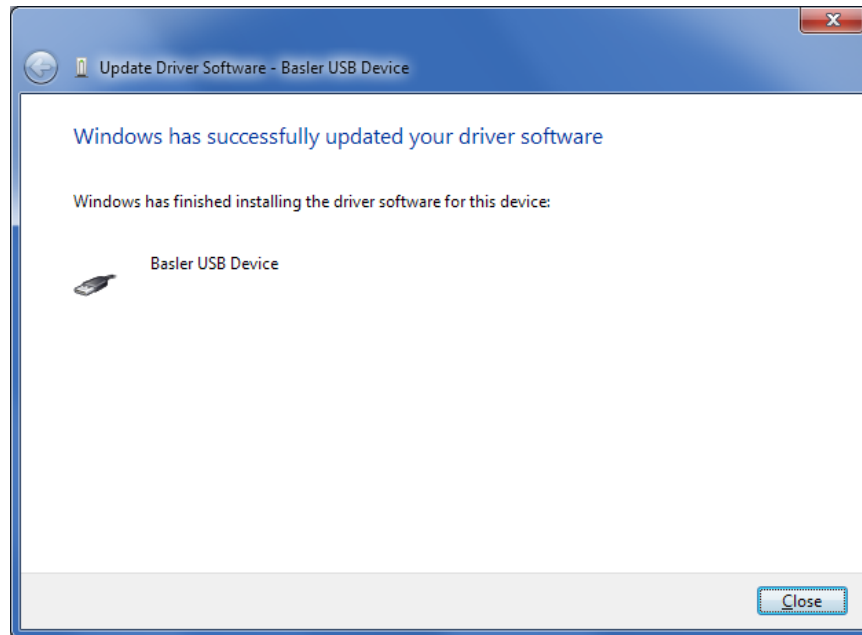

Figure 89-7. Driver Software Update Successful
Step 7. The window in Figure 89-7 appears if driver installation was successful.